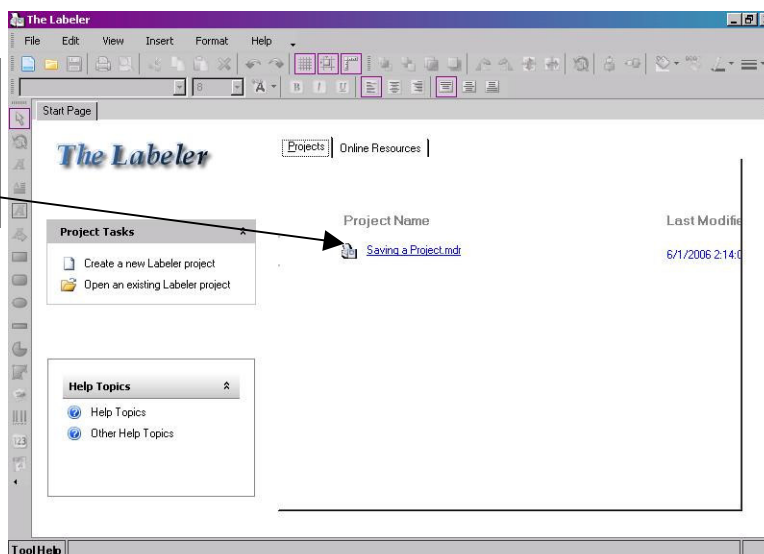

Figure 5.2.1: Opening a project
1. Click on the project that you want to open (see Figure 5.2.1).